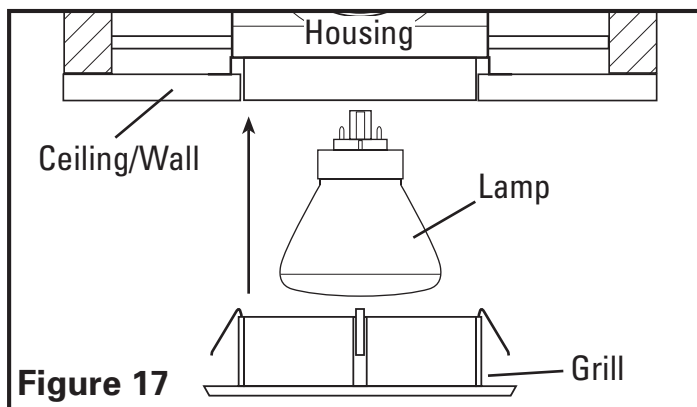

Figure 17
- 1a. **Halogen Light Models:** Install the included halogen lamp by gently inserting into the socket and turning the lamp until it is properly seated within the socket (**Figure 17**).
- 1b. **Fluorescent Light Models:** Install the included 4 pin fluorescent lamp by gently inserting into the socket and pushing inward until the lamp is properly seated within the socket (**Figure 17**).
NOTE: Fluorescent lamp is shown in **Figure 17**.
2. Install the grill into the ceiling grill housing by pushing it firmly inward towards the housing until it fits flush against the ceiling or wall material (**Figure 17**).
Halogen Models: Remove the lamp, by gently rotating until it releases from the socket and replace with Air King model 50WHA or an equivalent 50 watt, MR16, 120 volt EXN/GU10 lamp (**Figure 17**).
Fluorescent Models: Remove the lamp, by gently rocking back and forth while applying outward pressure until it releases from the socket and replace with Air King model 14WFW only (**Figure 17**).